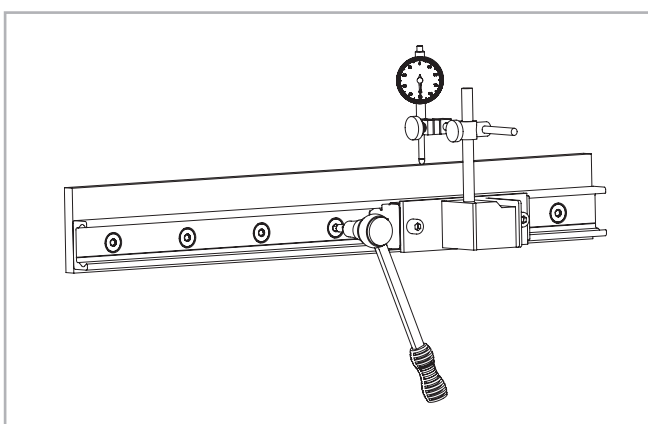

Fig. 154
(2) Install a dial indicator so that the offset of the rail to a reference line can be measured. Now position the slider in the center of the rail and set the dial indicator to zero. Move the slider back and forth between each two hole spacings and carefully align the rail. Fasten the three center screws of this area now with the specified tightening torque, see fig. 154.
(3) Now position the slider on one end of the rail and carefully align the rail to zero on the dial indicator.